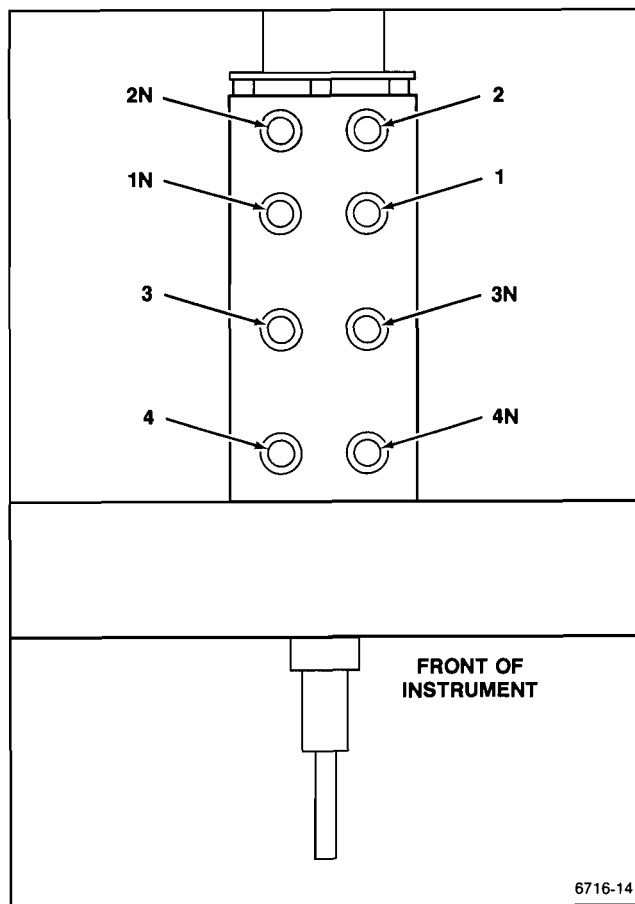

Figure 5-1. Attenuator trimmer adjustments.
f. ADJUST—Trimmer “1” for flattest response on the square wave signal. See Figure 5-1 for location of the trimmers.